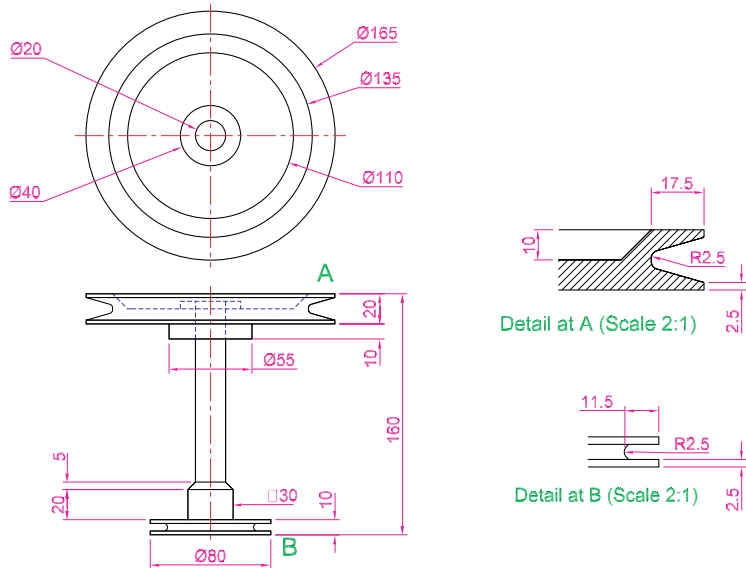

Fig. 13.48 Exercise 8
8. Working to the details given in the orthographic projection in Fig. 13.48, construct a 3D model of the assembly.